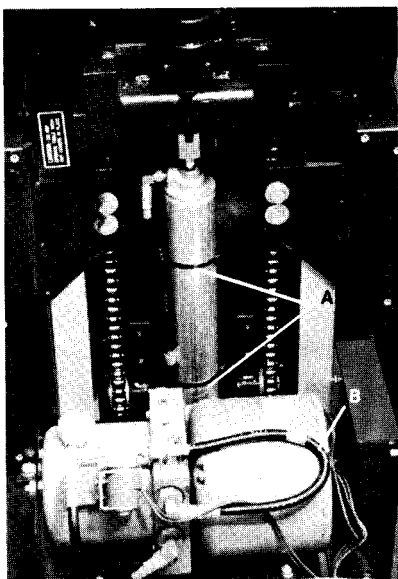

Fig. 29
- 2) Remove brace by removing (4) bolts with a 9/16" wrench.
- 3) Remove large nylon ties, Item A, Fig. 29, from cylinder.
- 9) Install the large nylon tie, Item A, Fig. 29, on the cylinder.